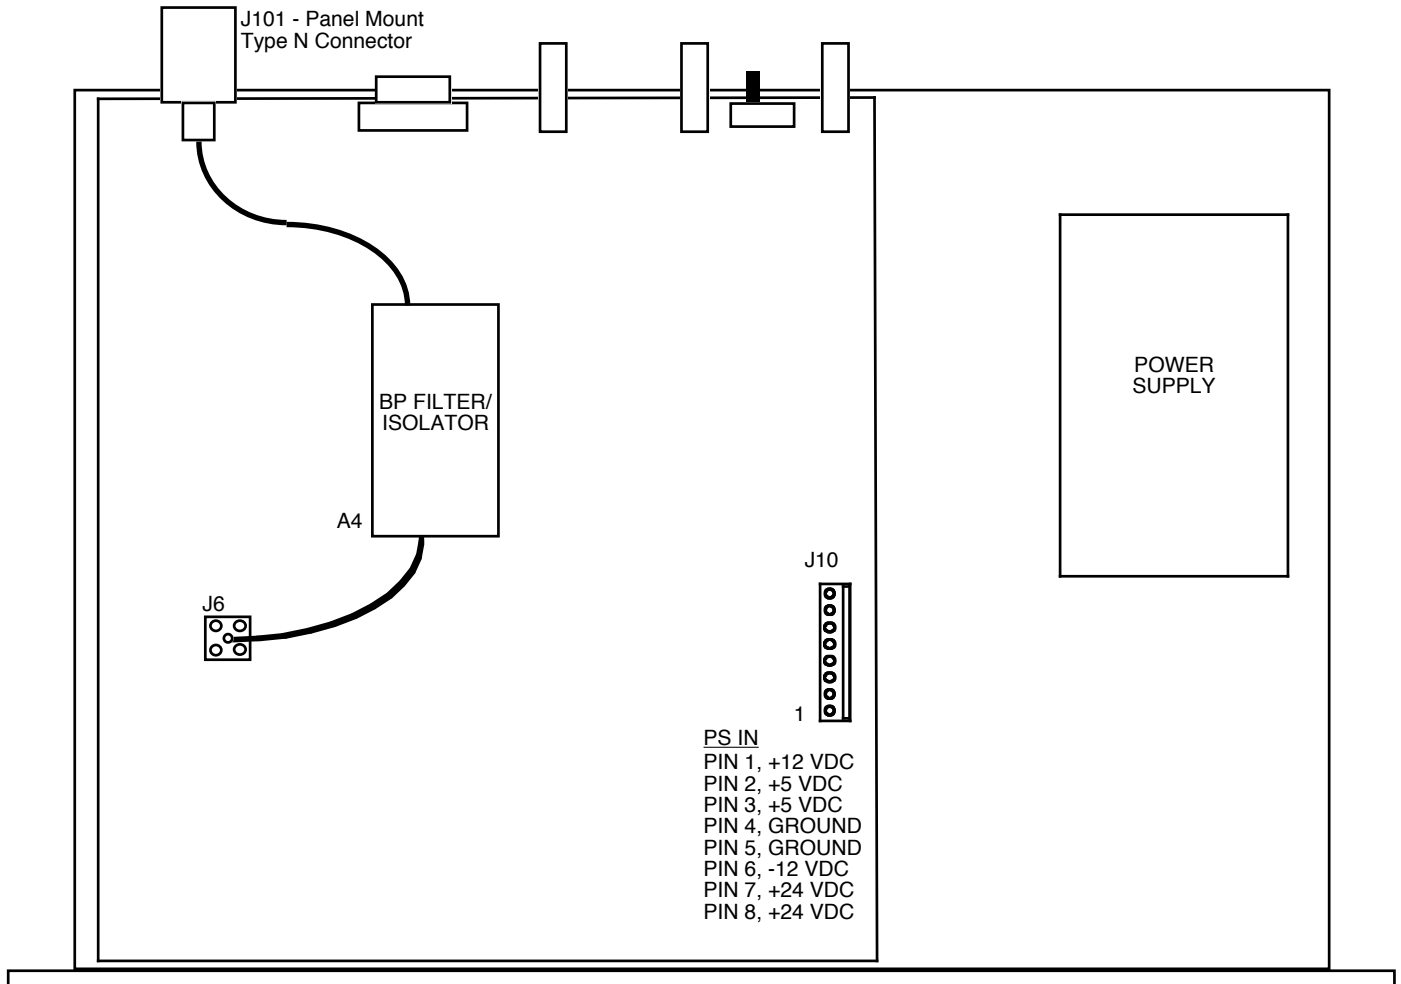

FIGURE 2.0 2116-172183 Mechanical Assembly
2.1 Mechanical - The 2116-172183 consists of one RF PCB housed in a 1 RU (1 3/4 inch high) by 14 inch deep chassis. A switching, ± 12 , +24, +5 VDC power supply provides power for the assemblies. The 2116-172183 can be secured to a rack using the 4 holes on the front panel. Figure 2.0 shows how the 2116-172183 is assembled.